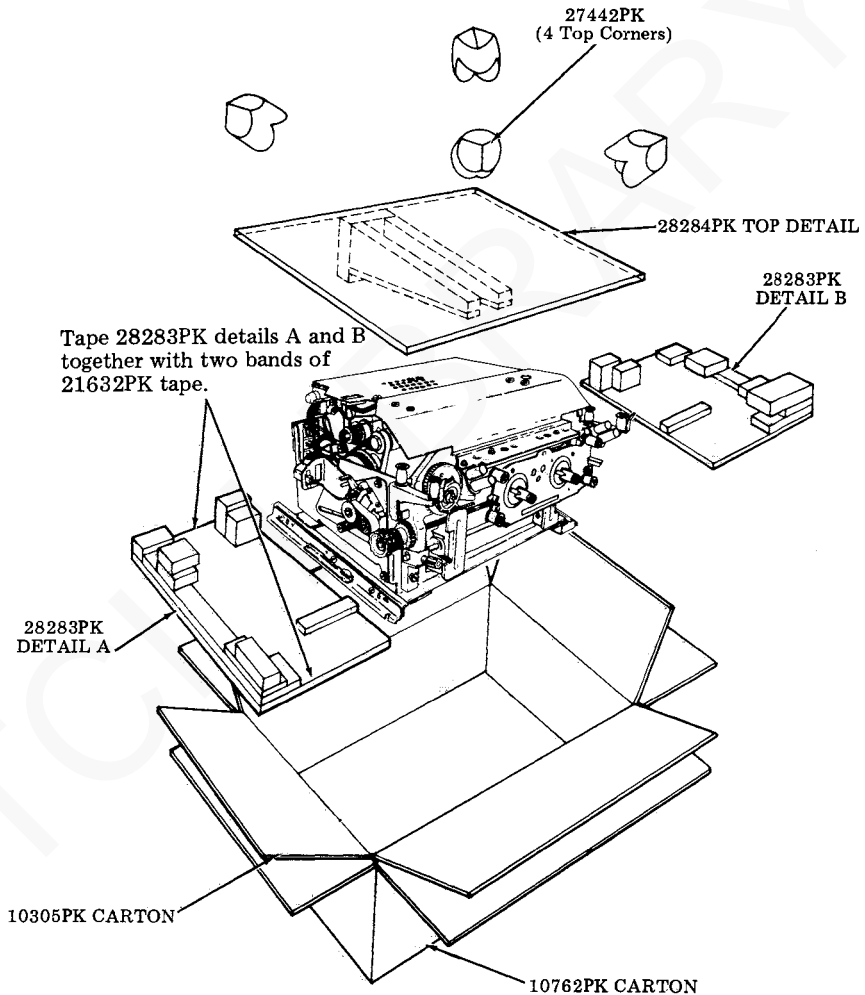

Fig. 21
- Step 9. Place the printer with pallets in the inner carton. See Fig. 21.
- Step 10. Place one 28284PK wood detail in carton on top of printer. See Fig. 21.
- Step 12. Position a 27442PK plastic corner on each of the four corners of the inner carton. See Fig. 21.